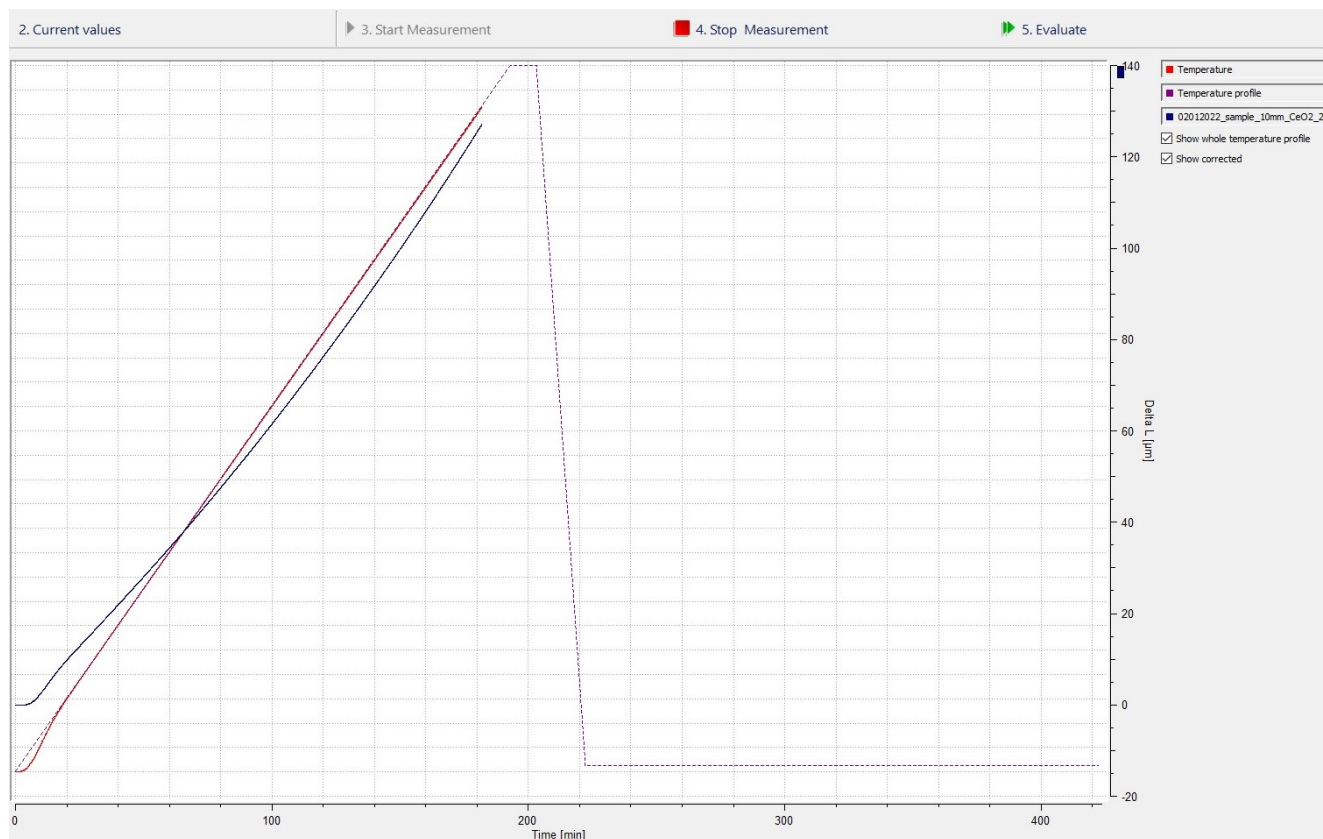

Figure 28. Current values page.
21. Select the current values tab to view the measurement in progress. Figure 28 is an example of the measurement progress.
- The whole temperature profile and the corrected profiles may be viewed by selecting the boxes in the upper right corner. The temperature, temperature profile, and length are color coded (refer to figure 28).